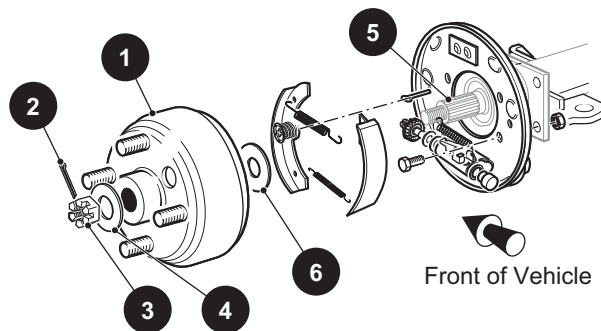

Fig. 20 Brake Assembly
4. Slide the brake drum (1) from the axle shaft (5). If required, tap the drum with a plastic faced hammer to loosen it from the axle shaft or use a drum puller (P/N 15947-G1) (Ref Fig. 20).
- Clean the axle shaft (5) and the splines on the brake drum (1) to remove dirt, grease and foreign matter.
- Install the inner brake drum washer (6) and slide the brake drum (5) into place (Ref Fig. 20).